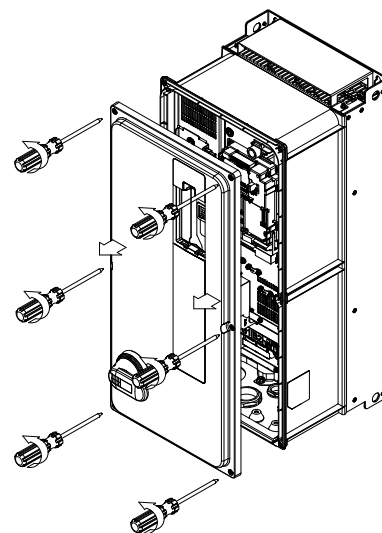

Figure 6-11
- 2) Loosen the screws and press the tabs on both sides to remove the cover. (As shown in Figure 6-11)